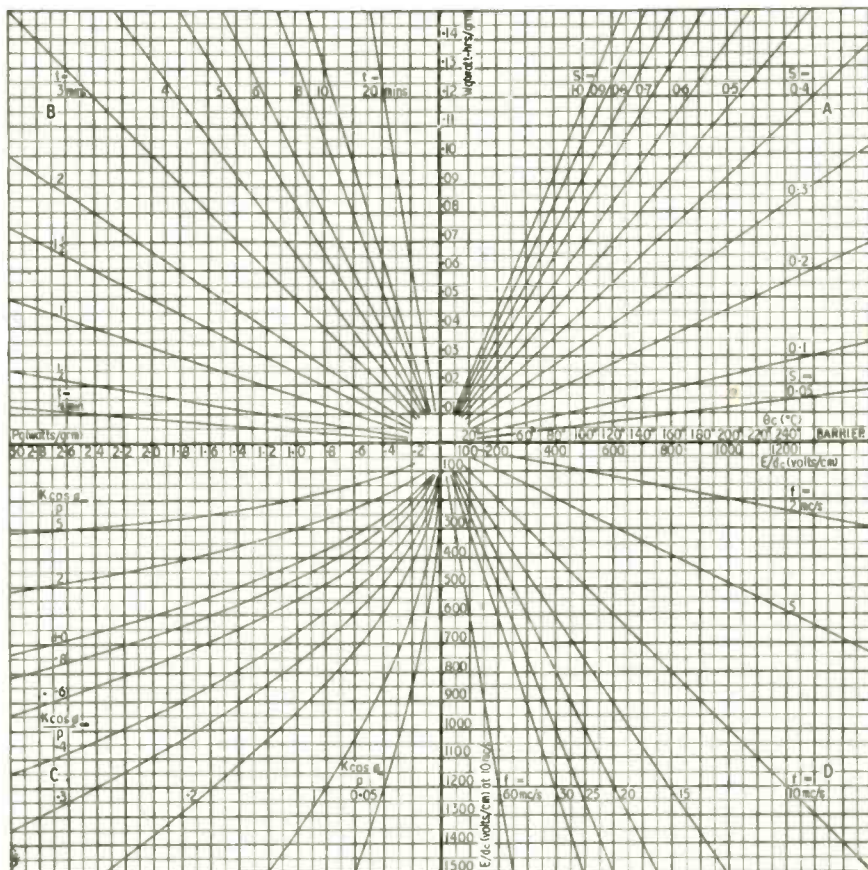

Figure 8
A. J. Maddock, of Standard Telephones and Cables, Ltd., in an article entitled "Calculations for Dielectric Heating by High Frequency Current", presents a heating chart, reproduced here in Fig. 8.
In Fig. 8, quadrant A gives the relationship between temperature rise, θ_c ,